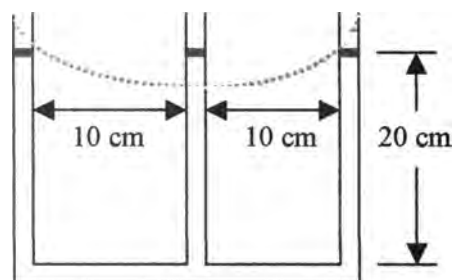

Fig. P2.159
**2.159** The three-legged manometer in Fig. P2.159 is filled with water to a depth of 20 cm. All tubes are long and have equal small diameters. If the system spins at angular velocity  $\Omega$  about the central tube, (a) derive a formula to find the change of height in the tubes; (b) find the height in cm in each tube if  $\Omega = 120$  rev/min. [*HINT*: The central tube must supply water to *both* the outer legs.]
**Solution:** (a) The free-surface during rotation is visualized as the **red** dashed line in Fig. P2.159. The outer right and left legs experience an increase which is one-half that of the central leg, or  $\Delta h_o = \Delta h_c/2$ . The total displacement between outer and center menisci is, from Eq. (2.64) and Fig. 2.23, equal to  $\Omega^2 R^2/(2g)$ . The center meniscus